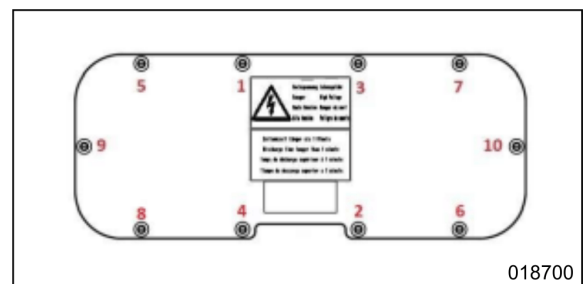

Figure 4
- Tighten all ten M5 cover fixing screws first to a torque of approximately 2,5 Nm in the sequence shown in figure 4. Then finally tighten the screws to 3,7 Nm in the order shown in figure 4. To this end, use a torque wrench according to DIN-ISO 6789.